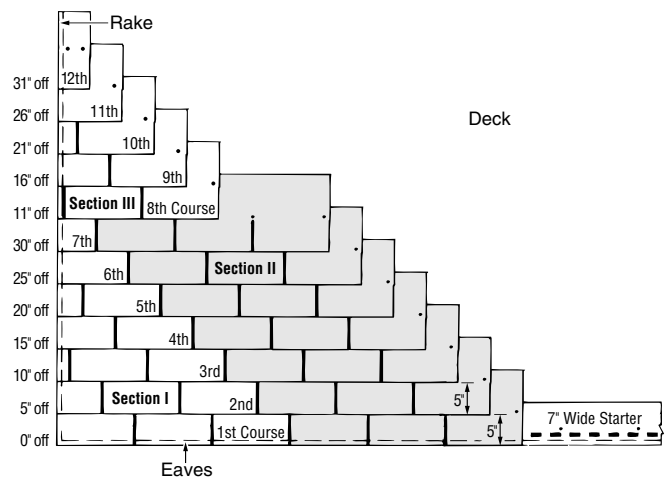

Figure 13-9: Five Off, Twelve Up.
1. Start the first course with a full shingle at the lower left corner of the roof. Make the tabs flush with the starter course and be sure to use four fasteners in each shingle (Figure 13-9).
"SECTION II" SHINGLES: All "Section II" shingles are left uncut. These shingles are to be butted-up against the "Section I" shingles that started courses one through seven. Fasten all shingles in the standard fashion (Figure 13-9).
1. Begin "Section III" in the eighth course with a shingle having 11" cut off its left end. Install the 25" piece above the seventh-course shingles, making it flush with the left edge of the seventh-course shingle and leaving 5" of the seventh course exposed. Fasten at the two standard locations, plus $1\frac{1}{4}$ " in from the left edge (Figure 13-9).
- The next four courses, up to and including the twelfth course, will start with a shingle 5" shorter than the first shingle of the course just below it. This means that the first shingle for the ninth, tenth, eleventh and twelfth courses will be 20", 15", 10" and 5" long, respectively. Study the diagram in *Figure 13-9* if you're not sure what to do. Remember to expose each course 5" to the weather, and fasten at the standard locations and 1 1/4" in from each edge. Complete courses across the roof with full shingles.